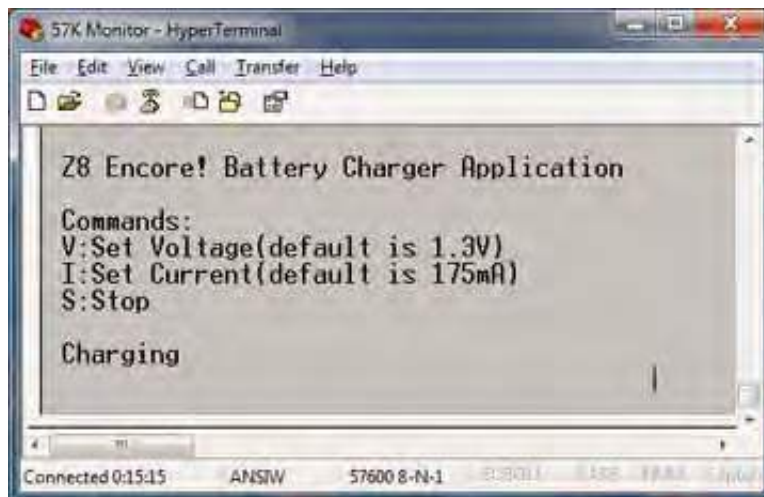

Figure 9. Charging in Progress Message
- c. If the battery voltage is above the NO_BATTERY level of 0.25V and below the SET_VOLTAGE level of 1.3V, both the RED and GREEN LEDs will be ON, and the *Charging* message shown in Figure 9 will be displayed.